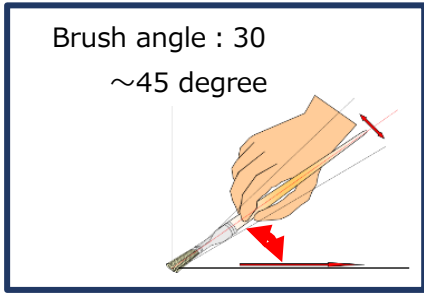

Figure 17
- Use brush angle of 30-45 degrees to smooth the sealer (Figure 17)